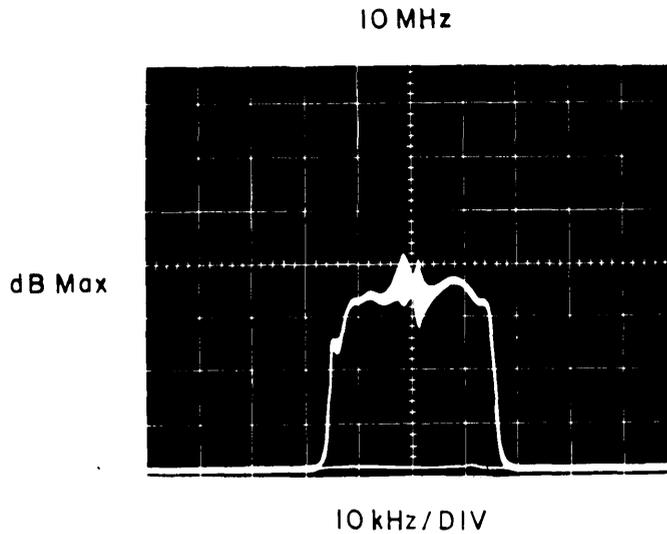

Figure 4-9. Typical Response, 10 MHz IF Amplifier
- (5) Adjust capacitors A6C7 and A6C24 for maximum gain and response flatness. (If the capacitor settings fall at their maximum or minimum extremes, A6L1 and A6L2 may be adjusted by spreading or compressing the coil turns as required.) Refer to Figure 4-9 for a typical response of the 10 MHz IF Amplifier.
- (6) Disconnect the 50 ohm detector from J3 and connect it to the sweep generator RF output. Decrease the output attenuation of the generator until the trace amplitude is equal to that noted in step (5).